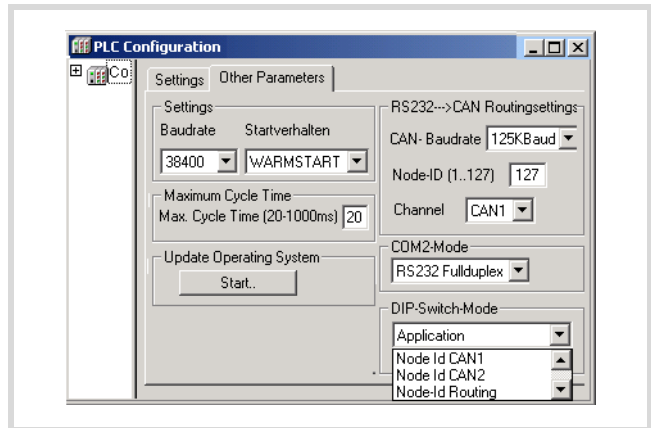

Figure 5: Mode of the application switch
- ▶ Open the Other Parameters tab in the PLC Configurator. In the “DIP-Switch-Mode” field (→ figure 5) the operating mode Node ID CAN1 or Node ID CAN2 may not be selected!